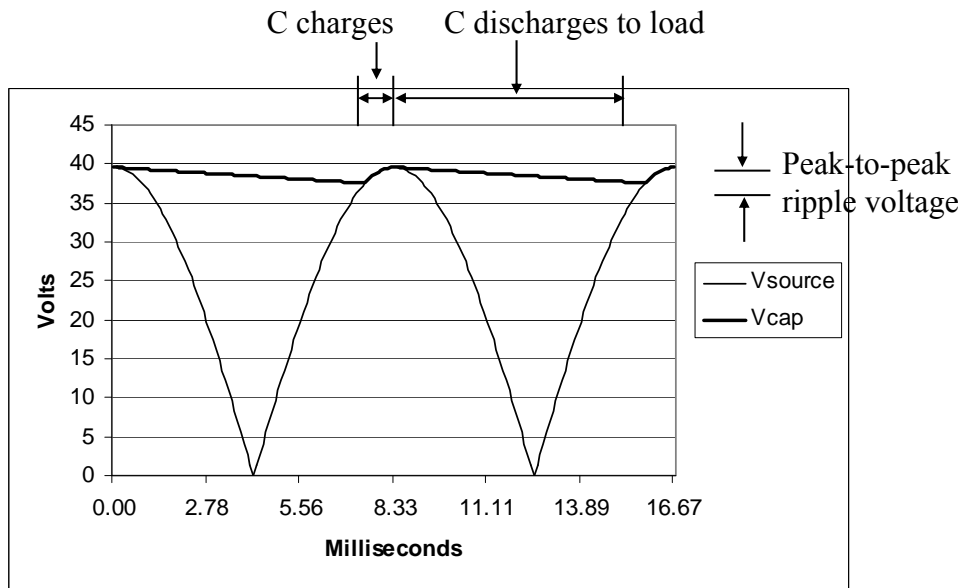

Figure 3. Impact of C on Load Voltage
the waveform for V_{dc} takes the form of V_{cap} in Figure 3.
As the load power increases, the capacitor discharges faster, the peak-to-peak ripple voltage increases, and the average dc voltage (i.e., the average value of the V_{cap} curve in Figure 3) falls. For zero load, V_{cap} remains equal to the peak of the rectified source voltage, and the ripple voltage is therefore zero.
For constant-power cases, peak-to-peak voltage ripple can be computed using energy balance in the capacitor as follows. If the “C discharging” period in Figure 3 is Δt , where $\frac{T}{4} \leq \Delta t \leq \frac{T}{2}$, then the energy provided by C during Δt is
where V_{peak} and V_{min} are the peak and minimum capacitor voltages in Figure 3, and P is the DC load power (approx. constant). From (1),